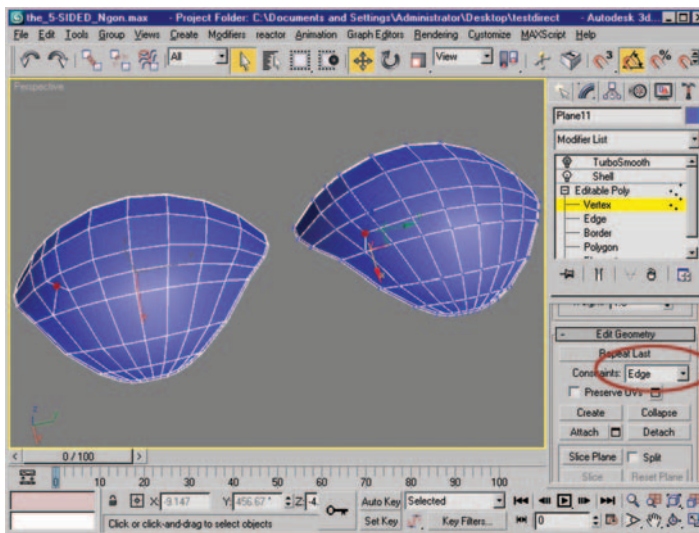

Figure 6.63 Vertex moved along diagonal edge using Edge Constraints.
7. The last thing to do is to move the vertex shown in Figure 6.63 to a new position to create a more even spacing of the vertices. As we discovered earlier, spacing affects the final output when the mesh is subdivided. Note the presence of three- and five-sided pole vertices where our mesh changes direction. This reaffirms the information we started the chapter with, that directional changes in a mesh are often accompanied by a pair of three- and five-sided pole vertices.